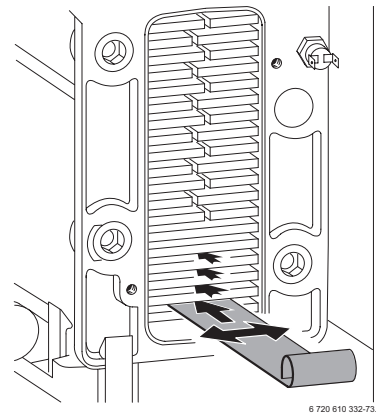

Fig. 53
- ▶ Loosen any deposits in the heat exchanger from top to bottom using the cleaning blade. Refer to fig. 53.